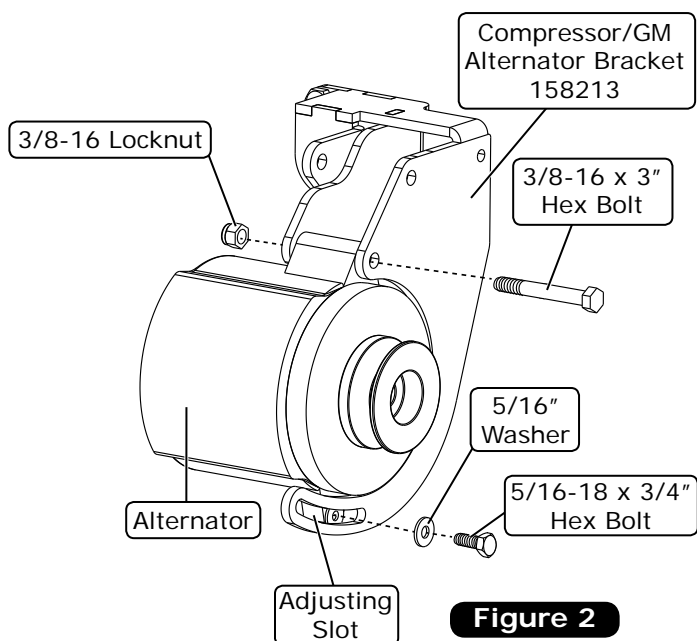

Figure 2
1. Install the alternator onto the compressor/GM alternator bracket using a 3/8-16 x 3" hex bolt and a 3/8-16 locknut as shown in Figure 2, below.
2. Install a 5/16-18 x 3/4" hex bolt and a 5/16" washer through the bracket's adjusting slot and into the alternator as shown in Figure 2, below.